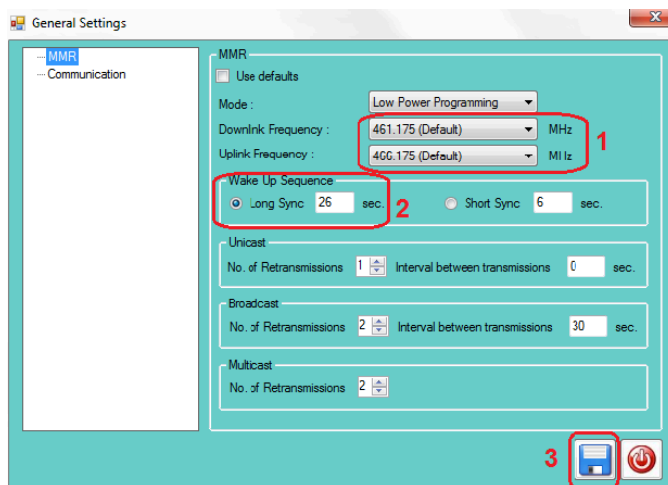

Figure 8
5. In the “**Settings**” window ensure the following (see figure 8);